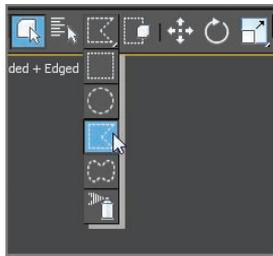

FIGURE 2.25 On the Selection Region flyout, choose the Fence Selection Region.
16. Click the Select Object tool ()(Q) and switch to Vertex mode.
17. To make this simpler, in the main toolbar, click and hold down the Rectangular Selection Region tool; this will bring up a flyout, as shown in Figure 2.25.